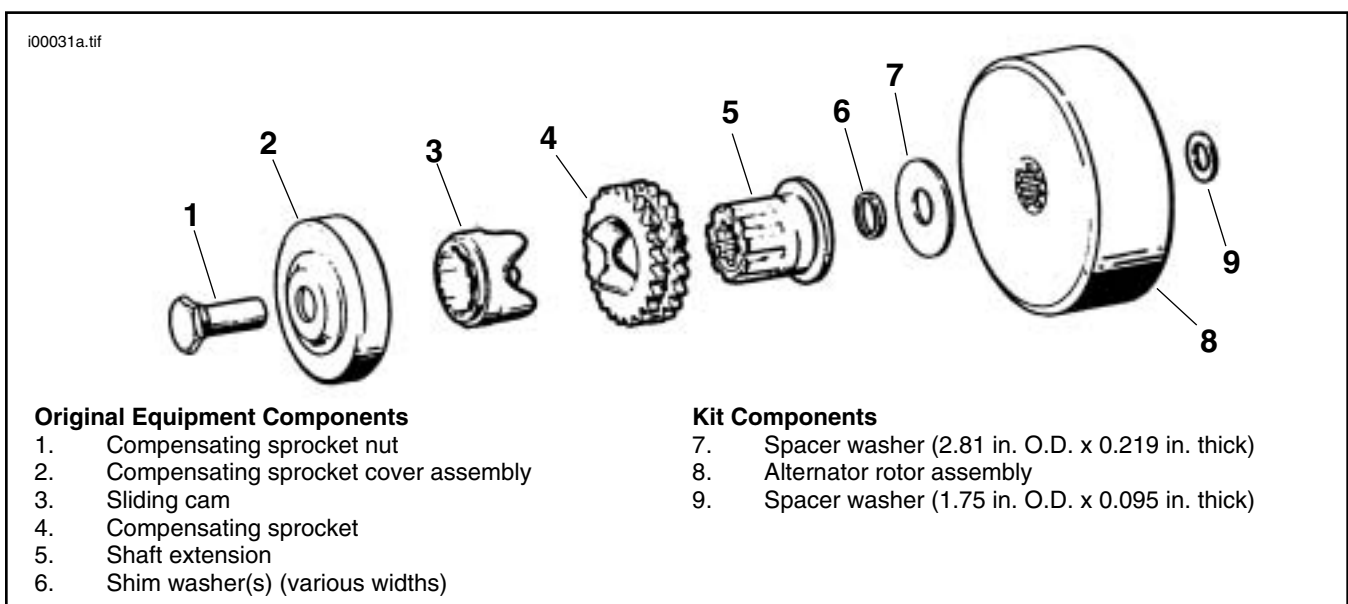

Figure 1: Alternator Rotor and Compensating Sprocket Assembly
4. See Figure 1. Place the smaller spacer washer (9) from the kit over the sprocket shaft.